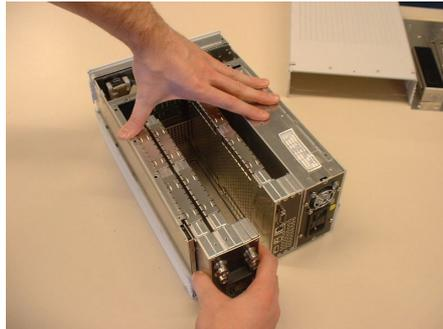

Figure 1-30
6. Pull generator module out toward rear of instrument. When removing the module, make sure that the springs in the carrier unit are not damaged (see Figure 1-30).